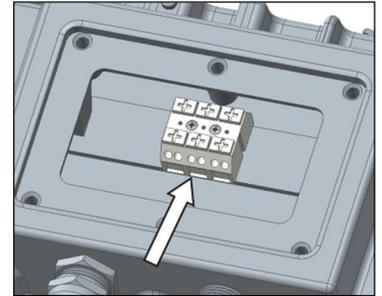

Fig.7
4. Connect source wires to terminal block [Fig.7] as described: